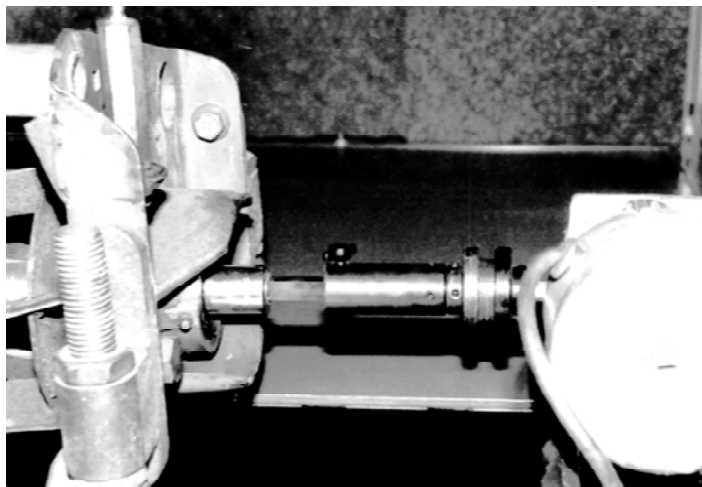

FIG. 22
The spin drive unit attaches to the end of the reel shaft or a drive system component. Consult the cutting unit manufacturer for proper spin drive placement and attachment. Determine which side to mount the spin drive. This will generally be the same drive system component used for backlapping. See FIG. 22.
3. Place the proper 1/2" square drive socket or adapter on the reel drive nut and then insert the square drive shaft into the socket. Place the adapter sleeve over the drive shaft and insert the drive coupler adapter assembly into it. Finally place the rubber coupler onto the drive coupler adapter. See FIG. 22